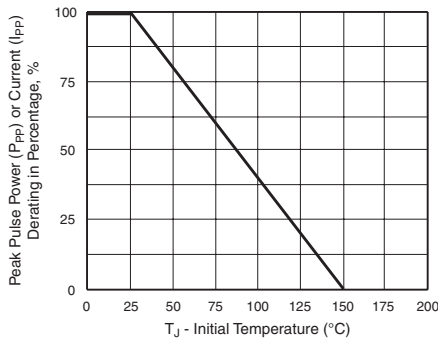
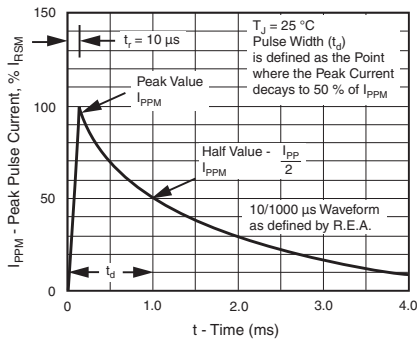

Figure 2. Pulse Power or Current vs. Initial Junction Temperature
Figure 3. Pulse Waveform
- (1) Pulse test:  $t_p \leq 50\text{ ms}$
- (2) Surge current waveform per Fig. 3 and derate per Fig. 2
- (3) For bi-directional types having  $V_{WM}$  of 10 V and less, the  $I_D$  limit is doubled
- (4) All terms and symbols are consistent with ANSI/IEEE C62.35
- (5) For the bi-directional SMA5J5.0CA, the maximum  $V_{BR}$  is 7.25 V
- (6)  $V_F = 3.5\text{ V}$  at  $I_F = 25\text{ A}$  (uni-directional only)